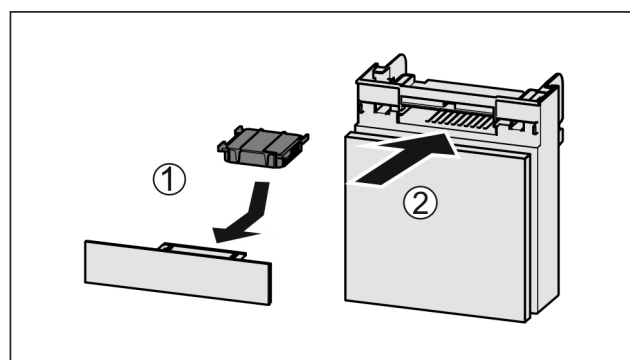

Fig. 210
- ▶ Insert the carbon filter as shown in the diagram Fig. 210 (1).
- ▶ Push the compartment in Fig. 210 (2).